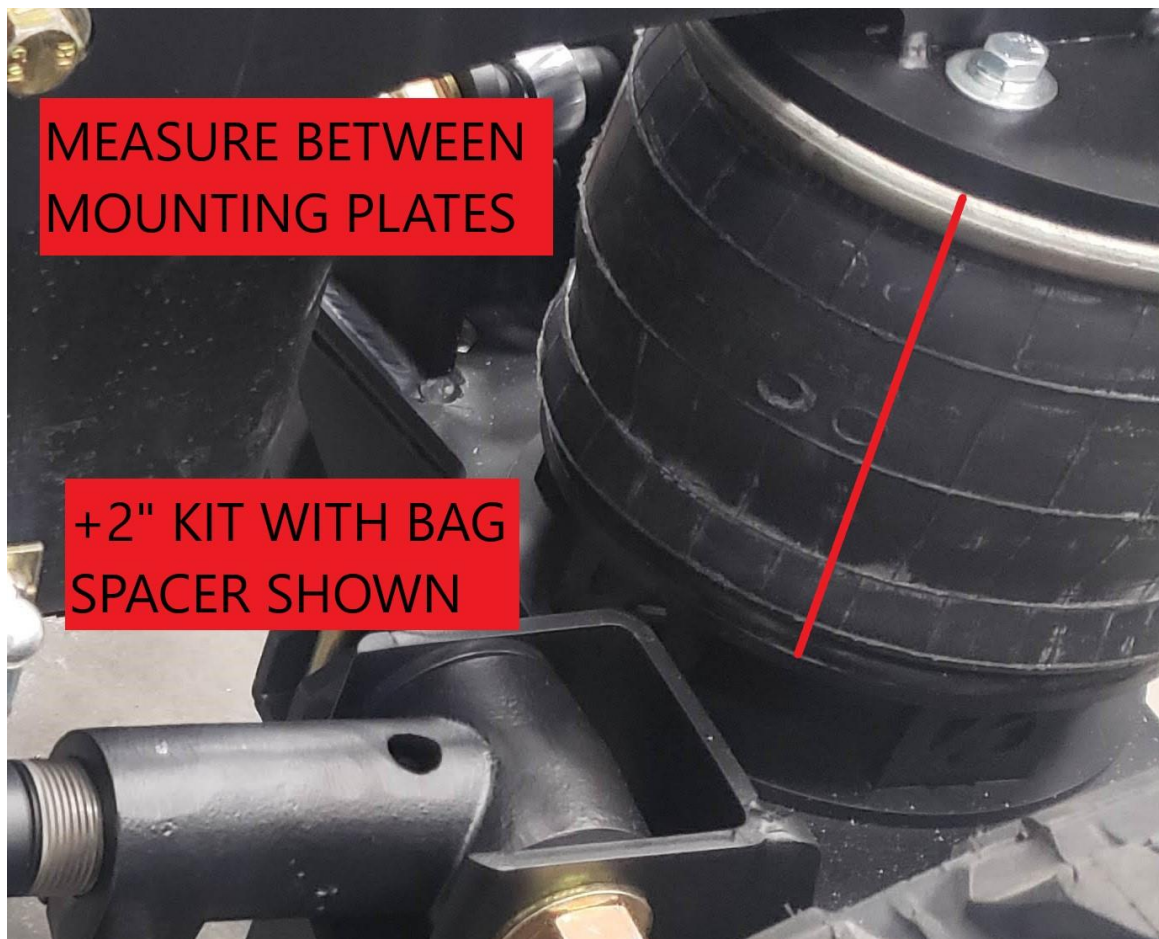

Figure 30
- 18 :** Once the kit is installed, inflate the airbags to 7 ½" this is where the airbag rides the best. Measure off of the front axle ball joints to make sure that the axle is square with the front. See figure 30.